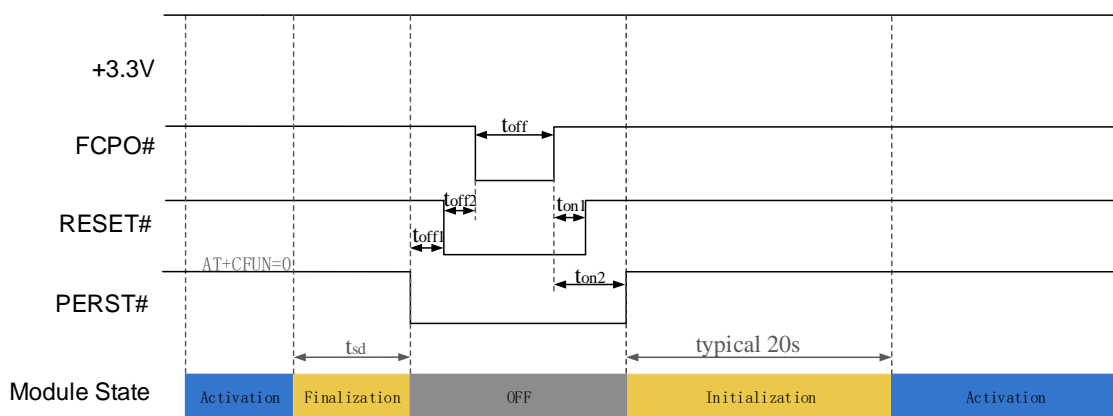

Figure 3-9 Reset control timing2nd
- Reset timing 2nd in Figure 3-9, PMU of module internal will be off in reset sequence (including whole power off and power on sequence, t_{sd} can refer section 3.3.2), recommend using in system warm boot.